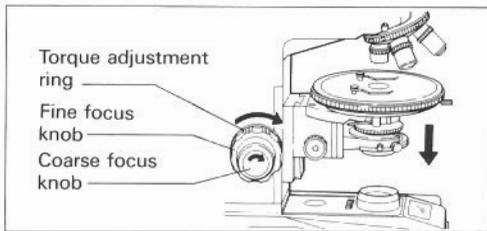

Fig. 17
- The relation between the direction of rotation of the focus knobs and that of vertical movement of the stage is as indicated in Fig. 17.